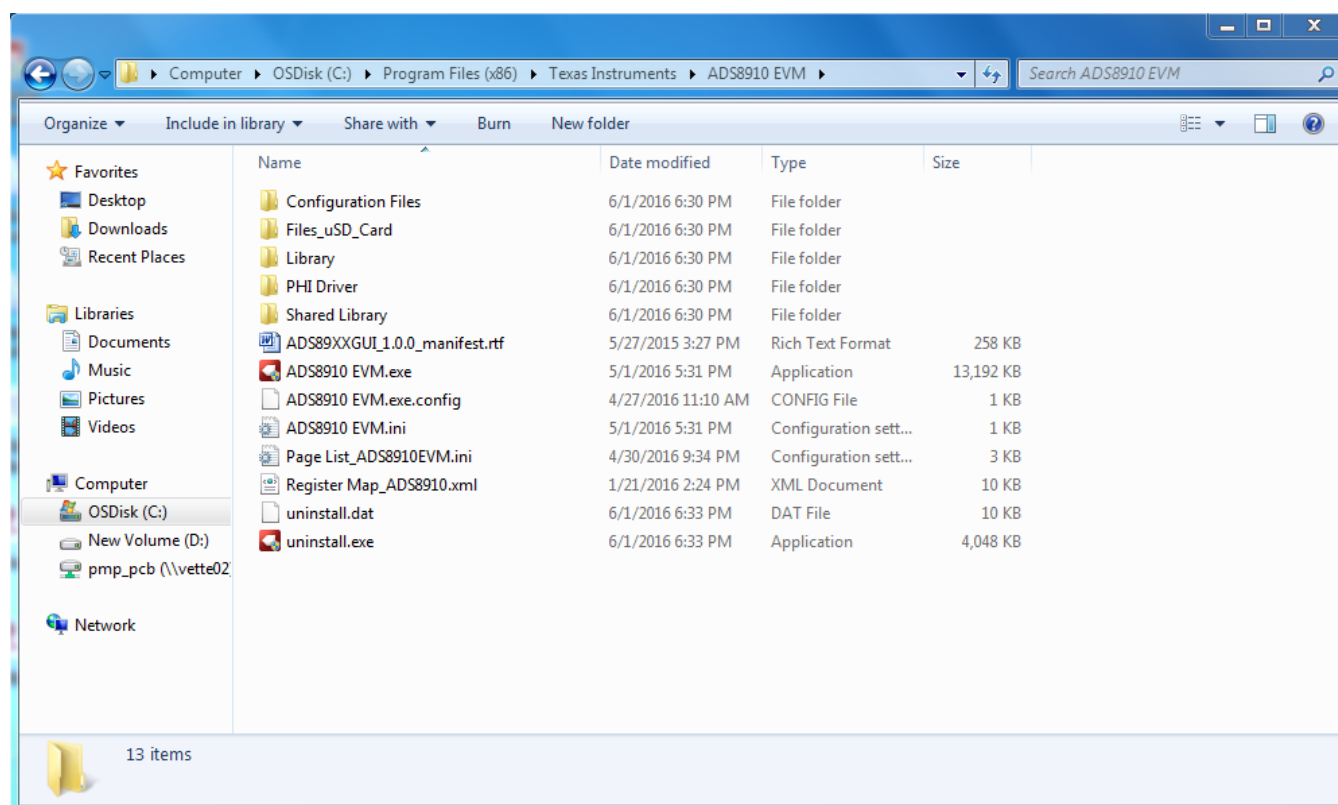

Figure 8. Launch the EVM GUI Software
3. Launch the ADS8910BEVM GUI software, as shown in Figure 8.